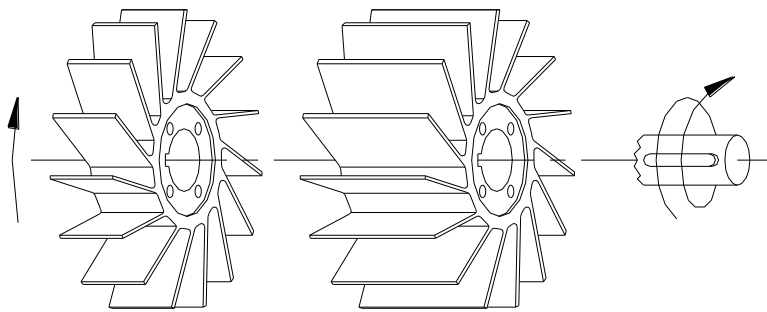

Fig. 24 - Pumps series TRH
- Place the pump in the vertical position resting it on the face of the bearing housing. Insert on the shaft the keys VDMA 940.1 (.2) of impeller VDMA 230 (.1) depending upon the pump series. Place on discharge casing VDMA 107 three (3) small paper spacers having 0.1 mm thickness (impeller spacers that will be discarded as soon as the pump starts rotating). With a brush or similar tool apply the Loctite product "SUPERBOND 320" or similar glue on the shaft area where the 2nd stage impeller will be placed. Slide on the shaft the 2nd stage impeller VDMA 230.1 making sure the impeller blades point to the direction of the pump clockwise rotation as indicated on the schematic's fig 24 or 25 (for special constructions, with counter clockwise rotation, mount the impeller with the blades pointing to the opposite direction).
WARNING: Before inserting the impellers on the shaft, note that the direction of the blades for the pumps with c.w. rotation should be as per drawings on fig. 24 or 25 (for the c.c.w. rotation, reverse the orientation of the impeller blades).